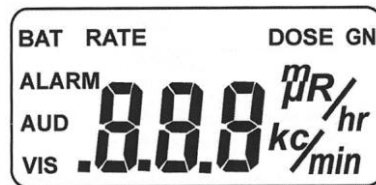

Figure 4 – The Test Display
4. While in Rate Mode, press and hold the CLR/TEST key until you see the test display in Figure 4 (approximately 4 seconds), and release the key.